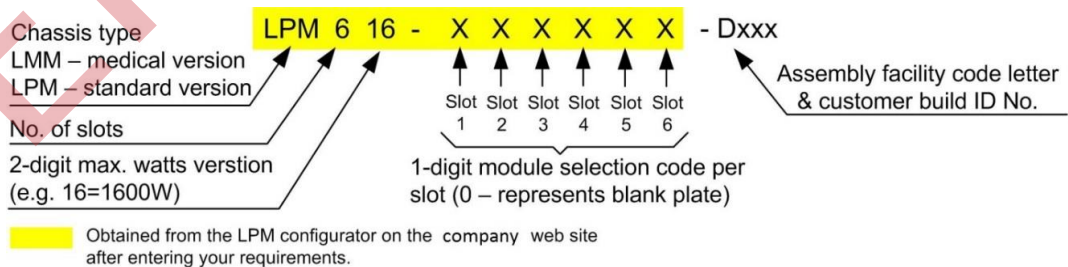

Figure 2. LPM 6-Slot Model Part Number Description
1 To determine your desired power supply's part number, please refer to *Figure 2* for a detailed part number description. Use the LPM Configurator on our website or use our contacts page to locate a distributor for further assistance.
**LPM616** Low Profile Modular 6-slot, 1600 W, with single-phase AC input. (Figure 2)